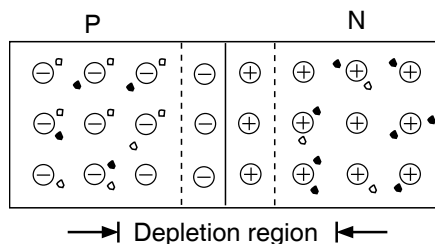

Fig. 1.10: P N Junction
3. Due to few re-combinations near the junction, a region is formed on both sides with no charge carriers. It contains only negative and positive immobile ions. This region is called depletion region or space-charge region. Fig.1.10 shows P N junction with depletion region.